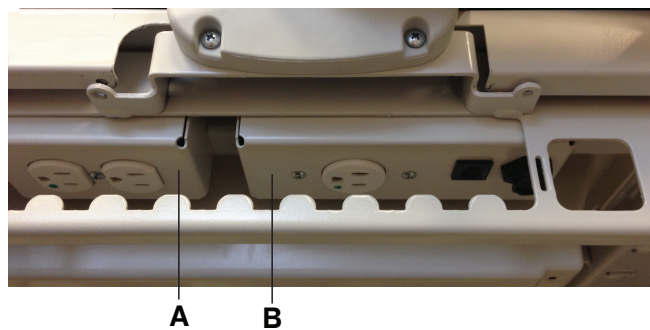

Figure 12 – InTouch auxiliary outlet options
You can use the 120 volt **InTouch** auxiliary power outlet as a built-in power source for peripheral equipment. The outlet is located beneath the foot end on the patient left side of the product (A) (see Product illustration). There is a one and two plug option for the **InTouch** auxiliary outlet (A) (Figure 12).
There is also an auxiliary mattress connector outlet for connecting a support surface option to **InTouch** (B) (Figure 12). A 5A breaker is also integrated into this power outlet.